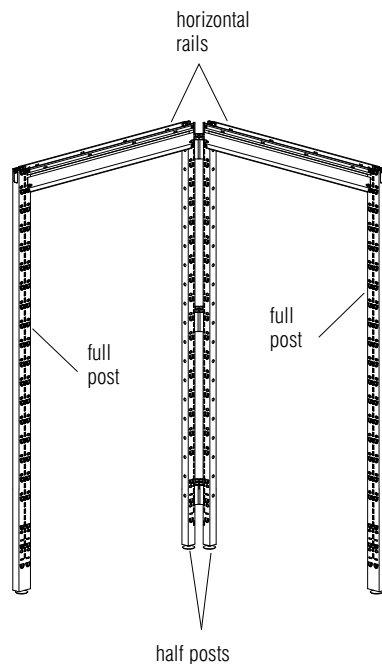

Figure 7
3. Repeat the above instructions, building out in a direction perpendicular to the first horizontals from the corner post. When this step is completed you should have a partially assembled 90° corner that can support itself. **Figure 7.**